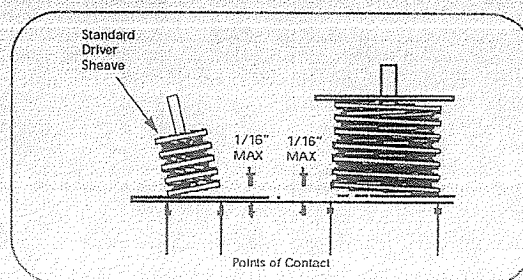

Figure 5 - Standard Drive Alignment
- Place a straight edge across the driver and the driven sheaves as shown in Figure 5.
- The straight edge should contact all four points as shown in Figure 5 indicating proper drive alignment.